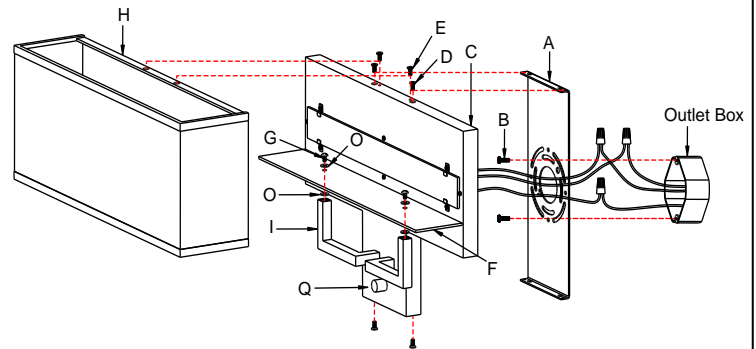

Fig.2
CONNECTING THE WIRES (FIG. 2)
4. At this point, connect the electrical wires as shown in Fig. 2, making sure that all wire connectors are secured. If your outlet has a ground wire (green or bare copper), connect the fixtures ground wire to it. Otherwise, connect the fixture ground wire directly to the mounting back plate (A) using the green screw provided. After wires are connected, tuck them carefully inside the junction box.
5. Align fixture back plate (C) onto mounting back plate (A) and secure with screws (D).